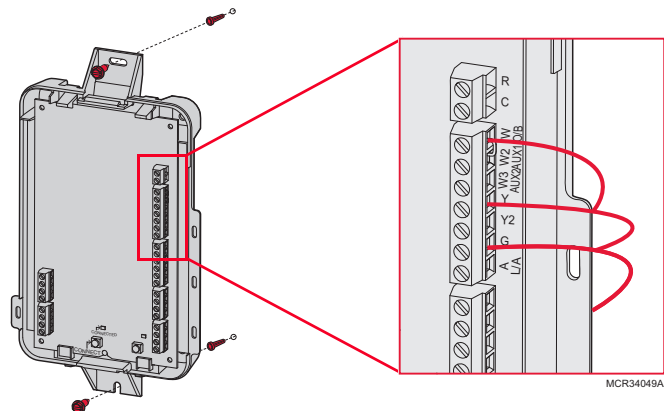

Fig. 7.
2. To wire the EIM, strip 1/4” insulation, then insert wires (see Fig. 7). For wiring diagrams, see “Wiring” beginning on page 117.